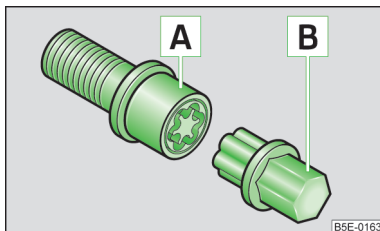

Fig. 193
- Insert the adapter **B** » Fig. 193 with its toothed side fully into the inner tooth of the safety wheel bolt **A** until the stop so that only the outer hexagon is jutting out.